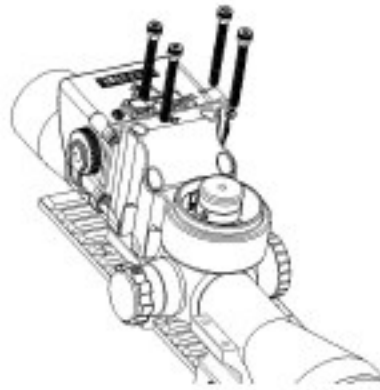

Figure 2-7
8. Place the BORS unit on top of the rear scope ring. Start, but do not tighten, the four socket head cap screws using the T-25 Torx® wrench. Use Loctite® if desired. Figure 2-7.